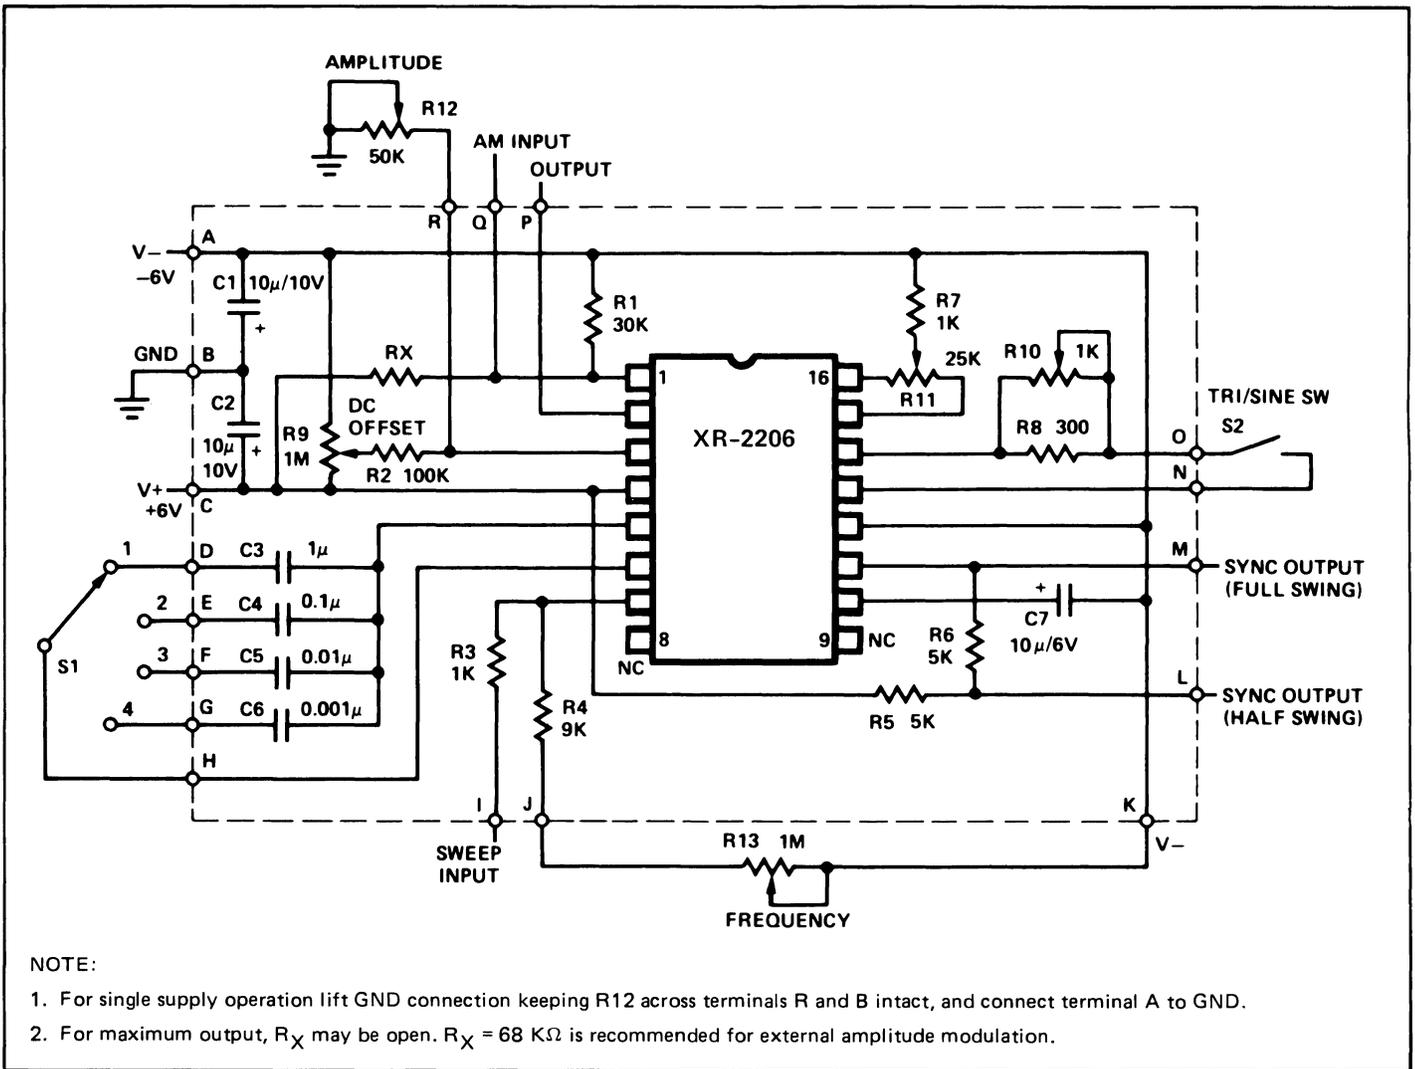

Figure 1. Circuit Connection Diagram for Function Generator. (See Note 1 for single supply operation.)
The performance characteristics listed below are not guaranteed or warranted by Exar. However, they represent the typical performance characteristics measured by Exar's application engineers during the laboratory evaluation of the function generator system shown in Figure 1. The typical performance specifications listed below apply *only* when all of the recommended assembly instructions and adjustment procedures are followed:
(b) **Frequency Setting:** At any range setting, frequency can be varied over a 100:1 tuning range with a potentiometer (see R_{13} of Figure 1).
The above expression is accurate to within $\pm 5\%$ at any range setting. The timing resistor R is the series combination of resistors R_4 and R_{13} of Figure 1. The timing capacitor C is any one of the capacitors C_3 through C_6 , shown in the figure.
(d) **Sine and Triangle Output:** The sine and triangle output amplitudes are variable from 0V to $6V_{pp}$. The amplitude is set by an external potentiometer, R_{12} of Figure 1. At any given amplitude setting, the triangle output amplitude is approximately twice as high as the sinewave output. The internal impedance of the output is 600Ω .
(f) **Sync Output:** The sync output provides a 50% duty cycle pulse output with either full swing or upper half swing of the supply voltage depending on the choice of sync output terminals on the printed circuit board (see Figure 1).
(g) **Frequency Modulation (External Sweep):** Frequency can be modulated or swept by applying an external control voltage to sweep terminal (Terminal I of Figure 1). When not used, this terminal should be left open-circuited. The open circuit voltage at this terminal is approximately 3V above the negative supply voltage and its impedance is approximately 1000 ohms.
(h) **Amplitude Modulation (AM):** The output amplitude varies linearly with modulation voltage applied to AM input (terminal Q of Figure 1). The output amplitude reaches its minimum as the AM control voltage approaches the half of the total power supply voltage. The phase of the output signal reverses as the amplitude goes through its minimum value. The total dynamic range is approximately 55 dB, with AM control voltage range of 4V referenced to the half of the total supply voltage. When not used, AM terminal should be left open circuited.